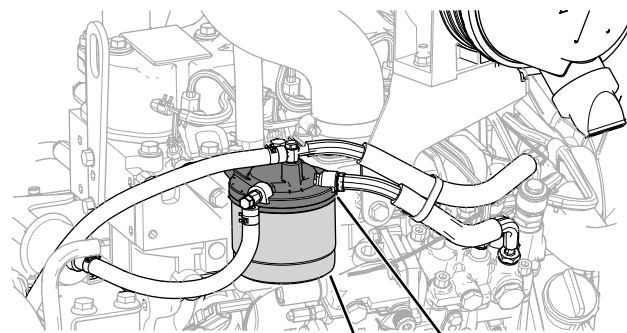

Figure 57
2. Remove the filter and clean the filter head mounting surface (Figure 57).
1. Clean the area around the fuel-filter head (Figure 57).